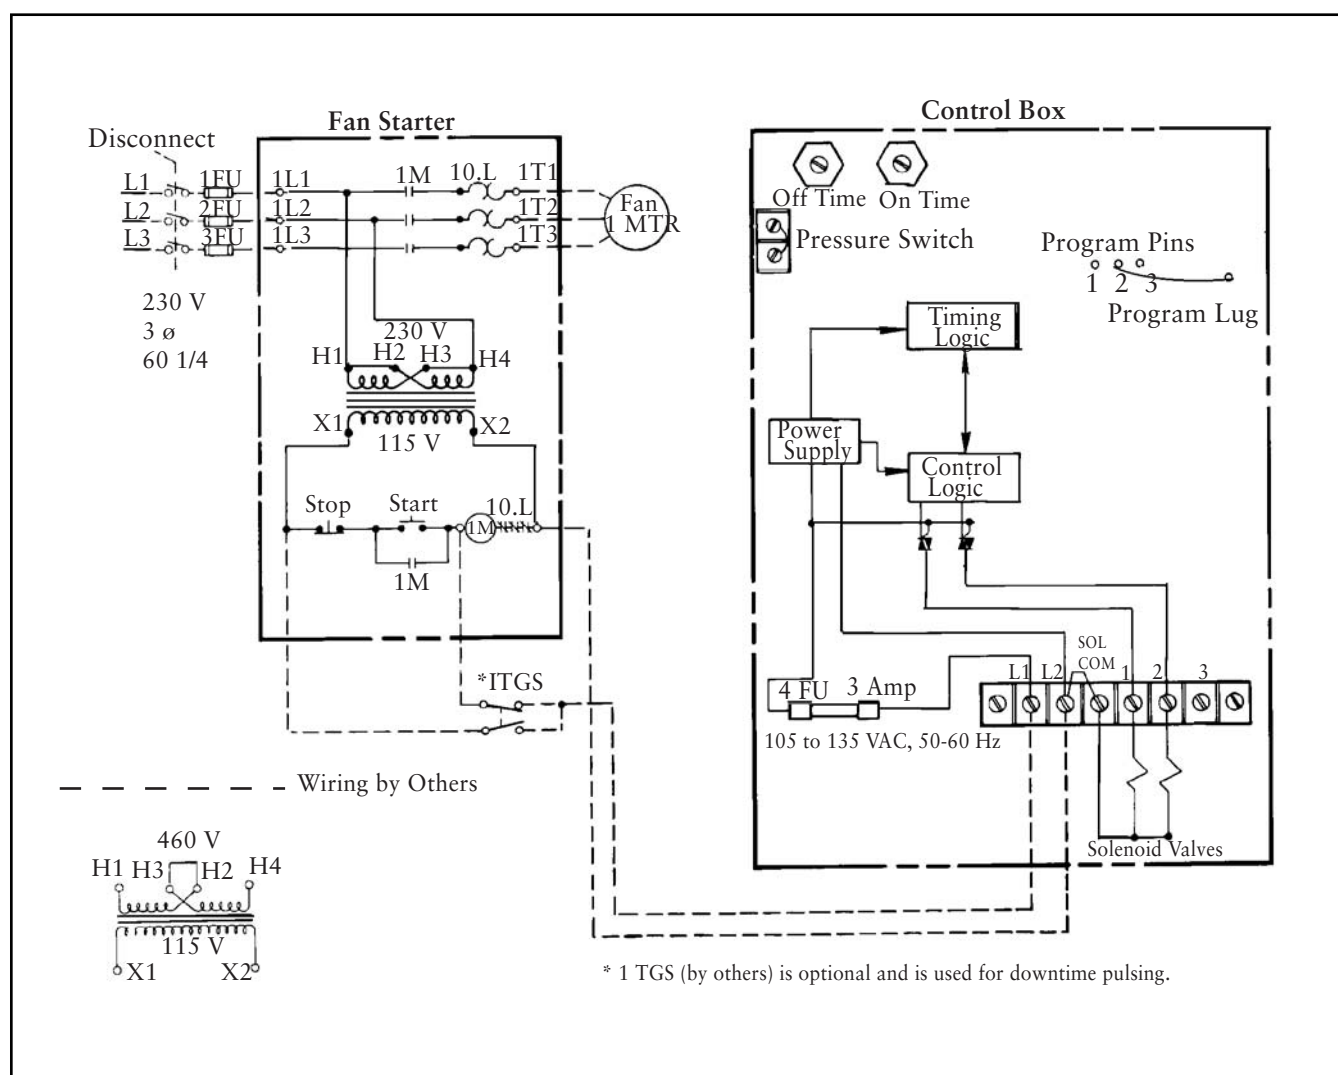

Figure 5, Solid-State Timer Wiring Diagram
2. Using wiring diagram (Figure 5 Wiring Diagram and inside control timer cover), make proper connections to fan motor, fan motor starter, solid state timer, and solenoid valves.